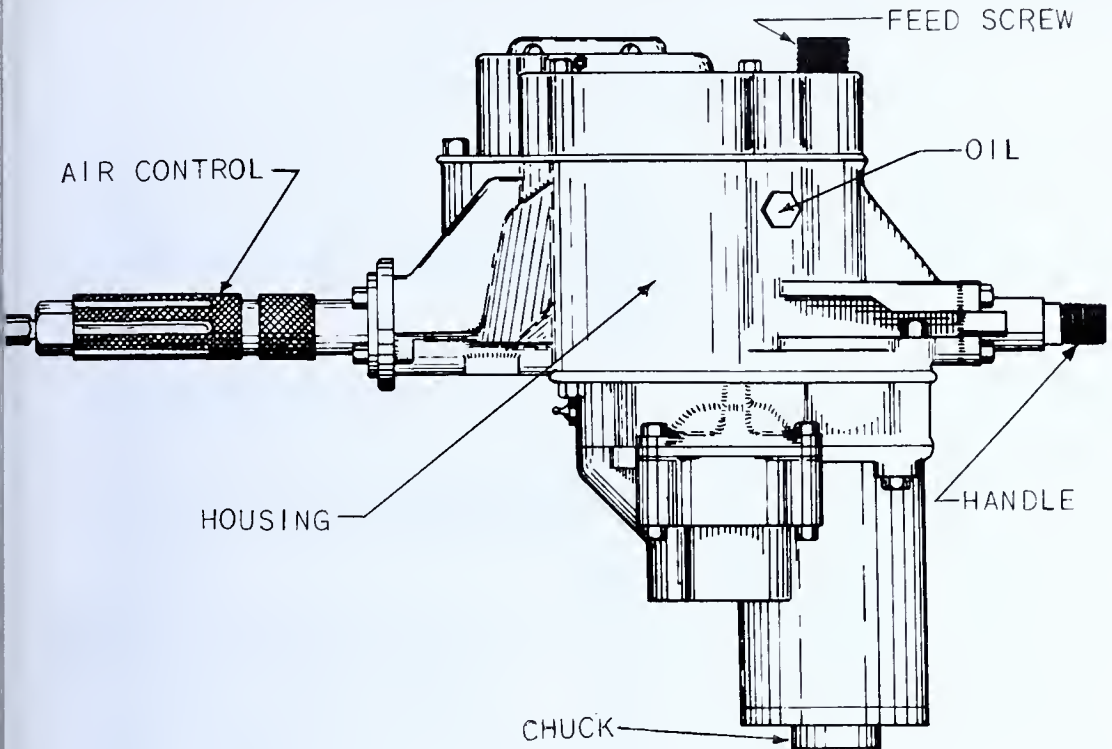

FIG. 499 — No. 3 Compound Tube-Expanding Machine
15. Place the No. 3 compounding machine (Fig. 499) over the end of the extension and proceed to expand the tube as in Step 7.